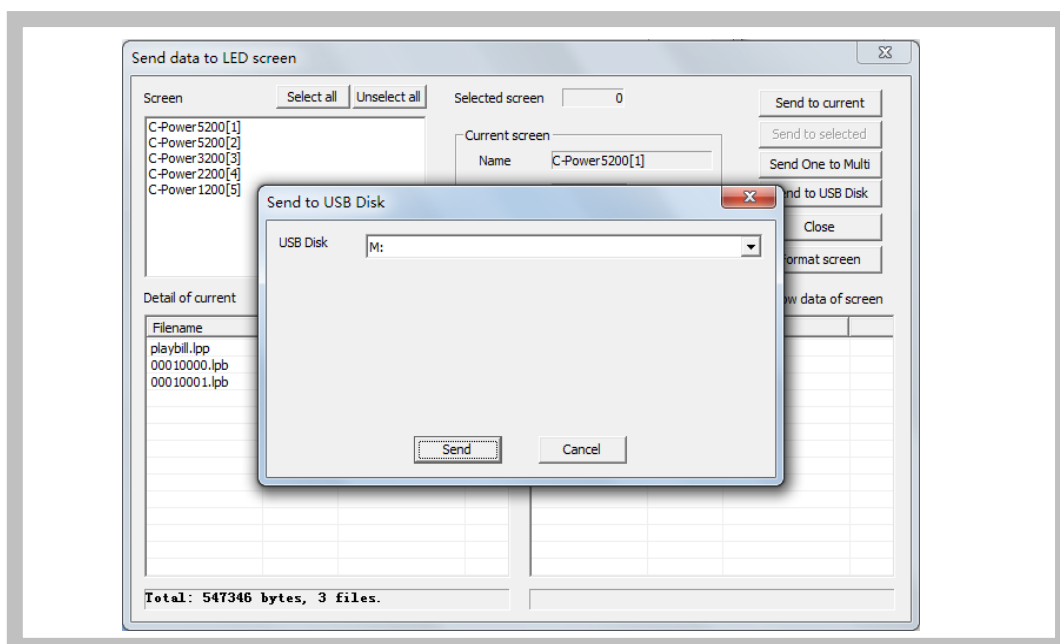
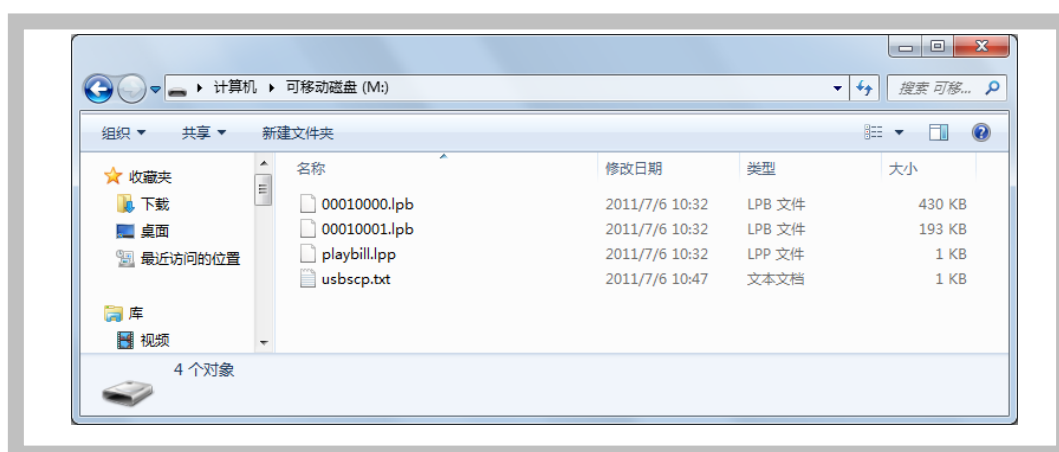

Figure38 Send the program data to USB flash disk
Figure39 The files list in USB disk after sending
- When transfer the program data via USB flash disk (the controller should be USB version), the USB flash disk can plug into the computer's USB interface, and then click "Send to USB disk" button, as Figure38 shown. Select the USB disk's driver letter, then click send button. The files include control files and program data files, as Figure39 shown.